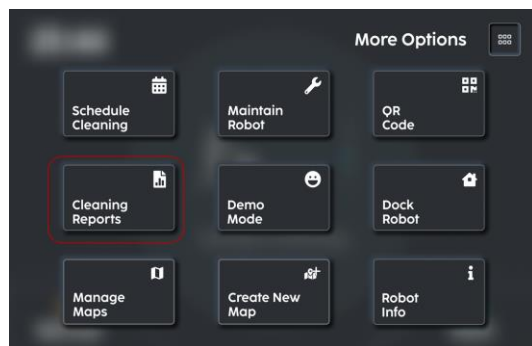

FIGURE 6-14
1. From the home page click on the more options icon (Fig. 6-14).